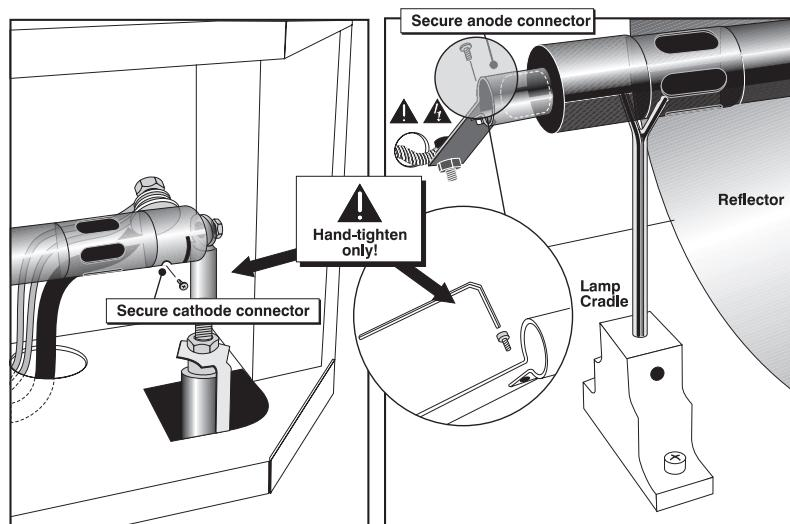

Figure 4.2 Secure Lamp at cathode (–) and anode (+) connectors
STEP 6 ➤ Remove the old lamp and inspect reflector. Loosen set screws from negative/cathode (rear, 7/64") and positive/anode (front, 3/16") lamp connectors. These screws are shown in Figure 4.2. *NOTICE: Make sure to apply minimal torque and DO NOT STRESS the quartz tube.* Carefully slip the positive anode connector off the front of the lamp.
3. Tighten setscrews in both negative and positive lamp connectors (Figure 4.2).